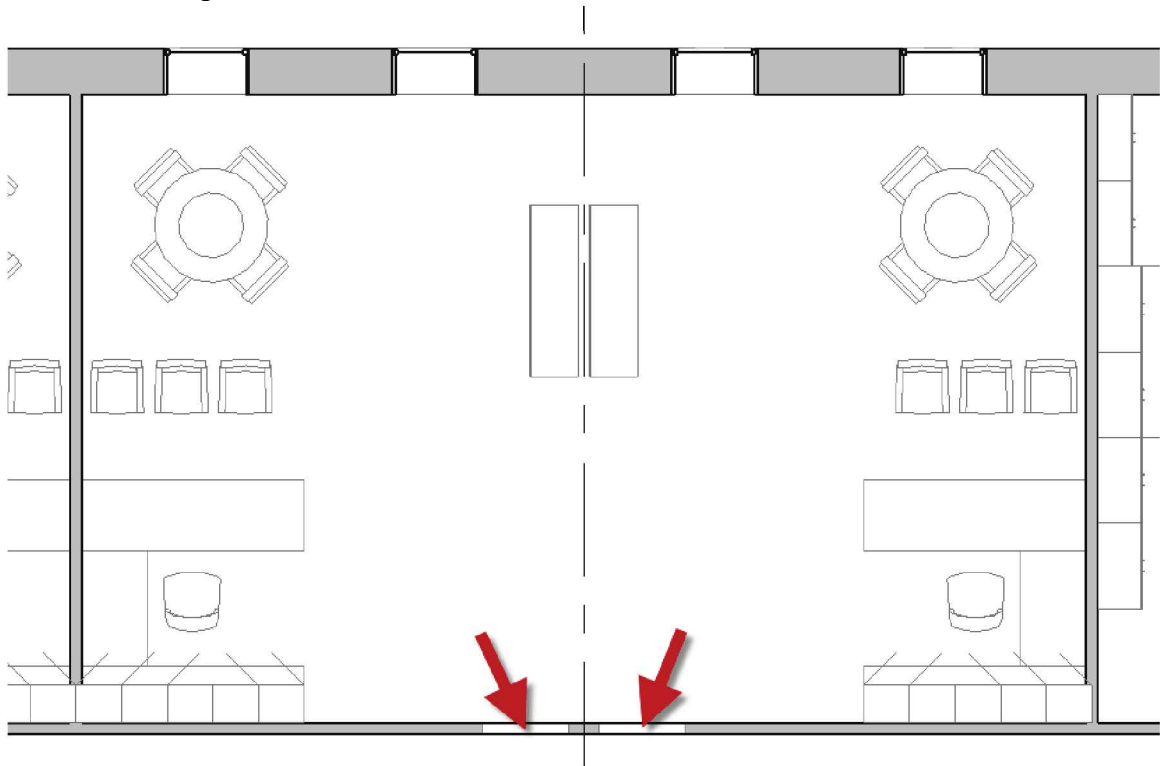

FIGURE 17-3.10 Level 1 – New floor plan view – wall and two doors hidden
20. Switch to **Level 1 – New** floor plan view (Figure 17-3.10).
21. Select one of the infill walls pointed out in Figure 17-3.10.